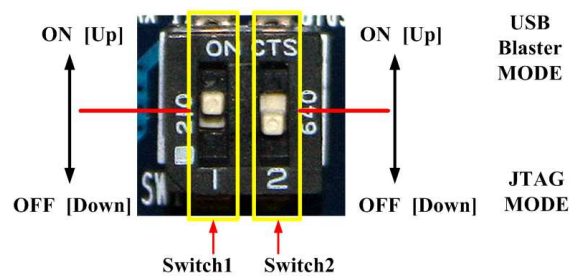

Figure 2.8. Set Switch1 to UP position and Switch2 to DOWN position in normal operation (JTAG mode)
Users should use JTAG mode in normal operation. Set **Switch1** to **UP** position and set **Switch2** to **DOWN** position as shown in Figure 2.8.
1. Configure the dip switch on the MAX II Micro board as shown in Figure 2.8.